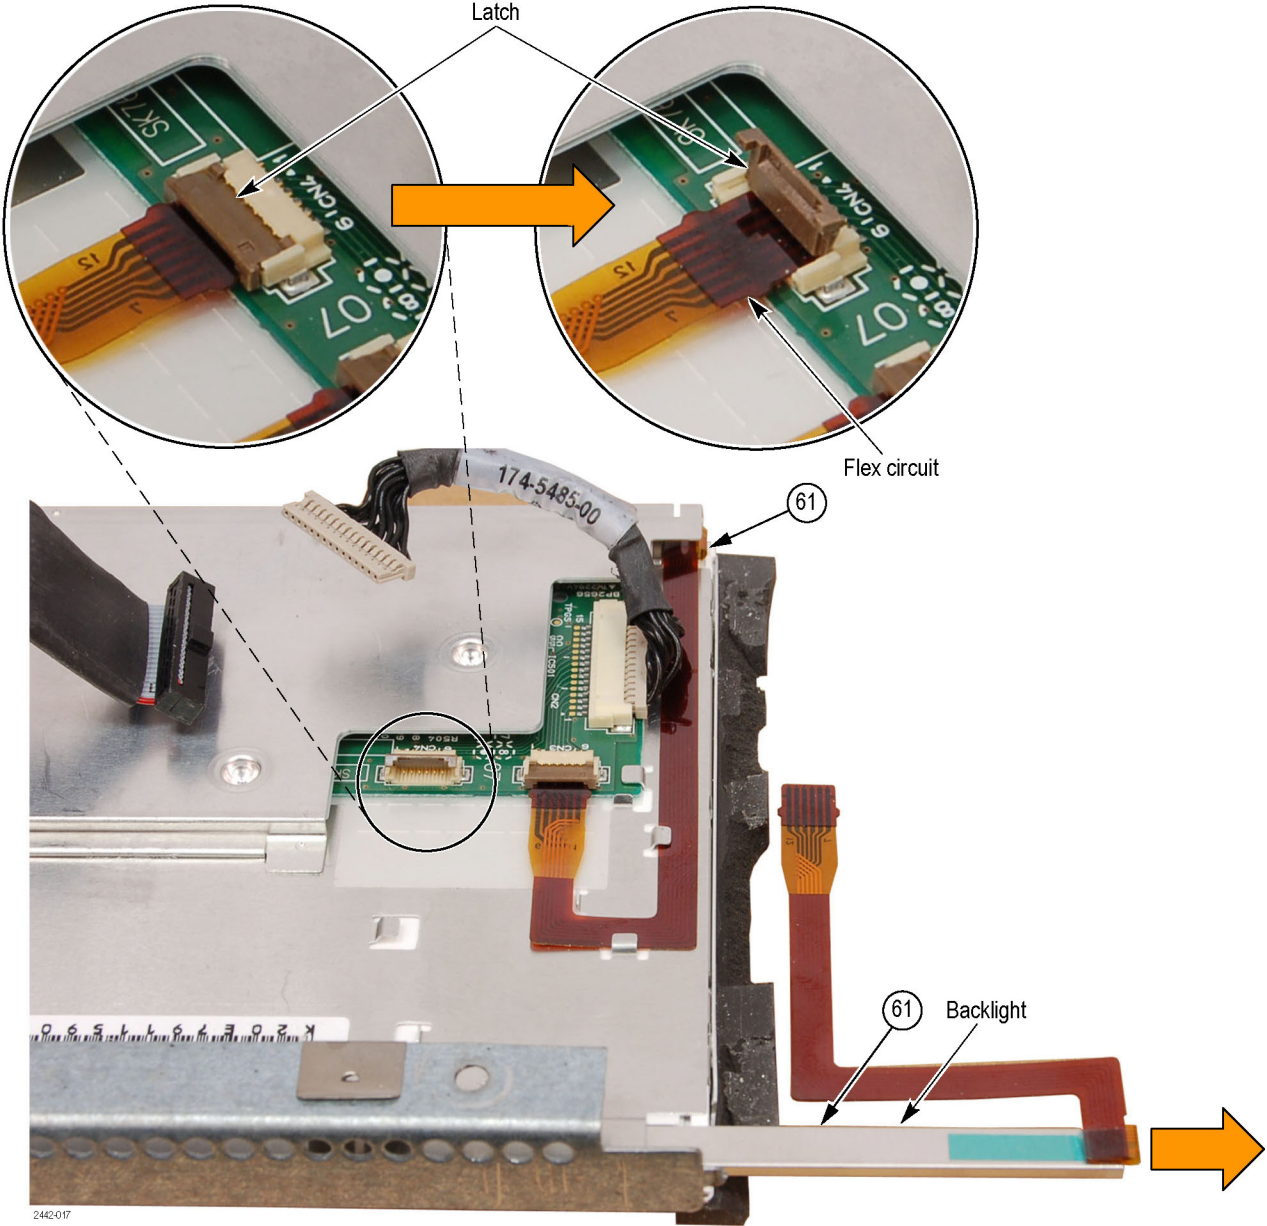

Figure 6: Backlight removal
- 6. Lift up on the flex circuit connector latch and remove the flex circuit from the connector. (See Figure 6.)